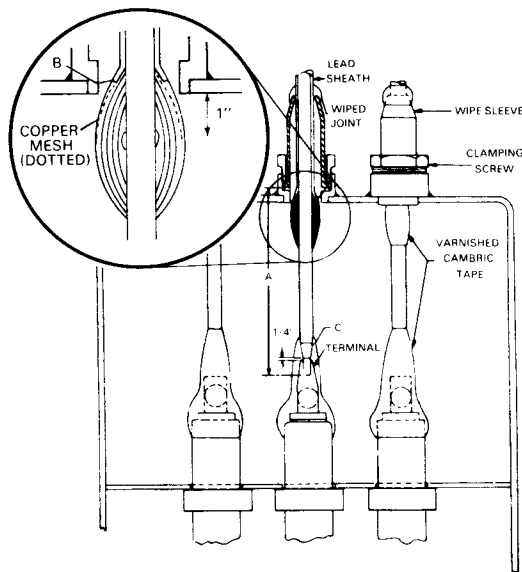

Fig. 4 Terminal chamber
Single-conductor, lead-covered, paper-insulated, or varnished-cambric-insulated cable can be connected to a top- or bottom-connected terminal chamber or junction box as follows: (Refer to Fig. 4 which shows a typical top-connected terminal chamber with wiping sleeve for single-conductor cable).
13. Build up the penciled portion (C) of the insulated bare conductor and beveled section of the terminal with varnished cambric tape treated with a thorough application of cable oil between each layer.
14. Locate the wiping sleeve on the cable so that the gasket surface of the wiping sleeve is distance A (Fig. 4) from the end of the cable. This distance can be obtained by direct measurement or from the transformer Outline. Make the wiped joint between the wiping sleeve and the cable sheath.